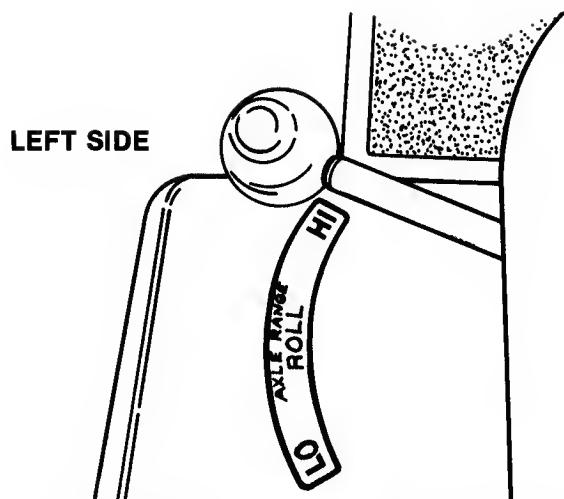

FIG. 4 - AXLE RANGE SELECTOR ON LEFT
1. Before releasing the Clutch/Brake pedal, shift the axle into HI(fast) or LO (slow) range with the selector located to the left of the operator's seat (figure 4). NOTE: To avoid gear damage, DO NOT shift axle range with machine in motion!